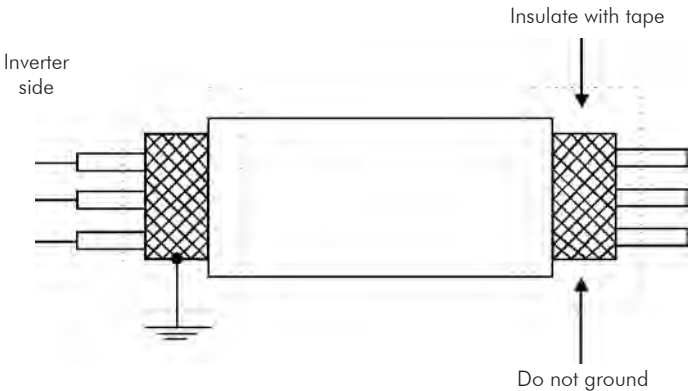
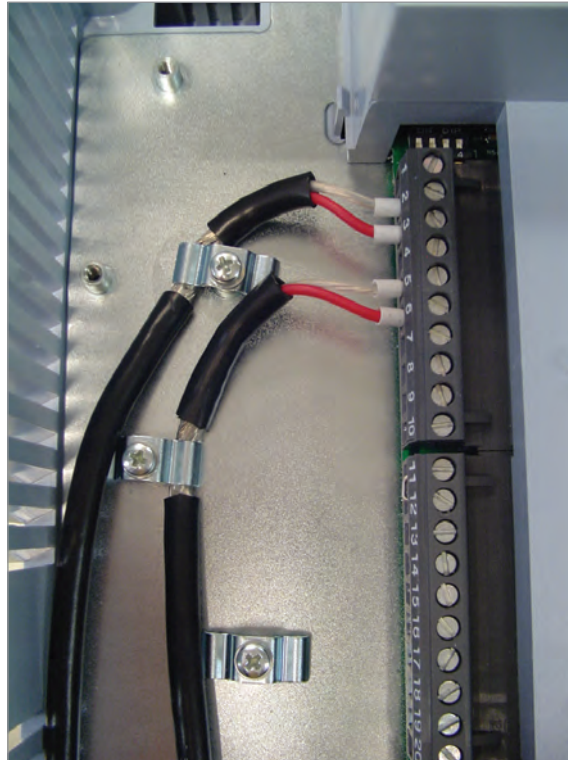

Figure 3.40 - Shield connection
Figure 3.41 - Example of control wiring shield connection
4. The correct connection of the cable shield is shown in Figure 3.40 on page 3-50 and Figure 3.41 on page 3-51.
- ☑ Use shielded cables connected to ground only on inverter side. Use the provided metallic pieces as shown on Figure 3.41 on page 3-51.